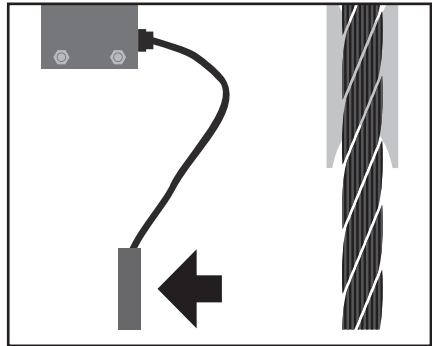

Fig. 21
2. Route the cable upwards via the cable duct (Fig. 21).